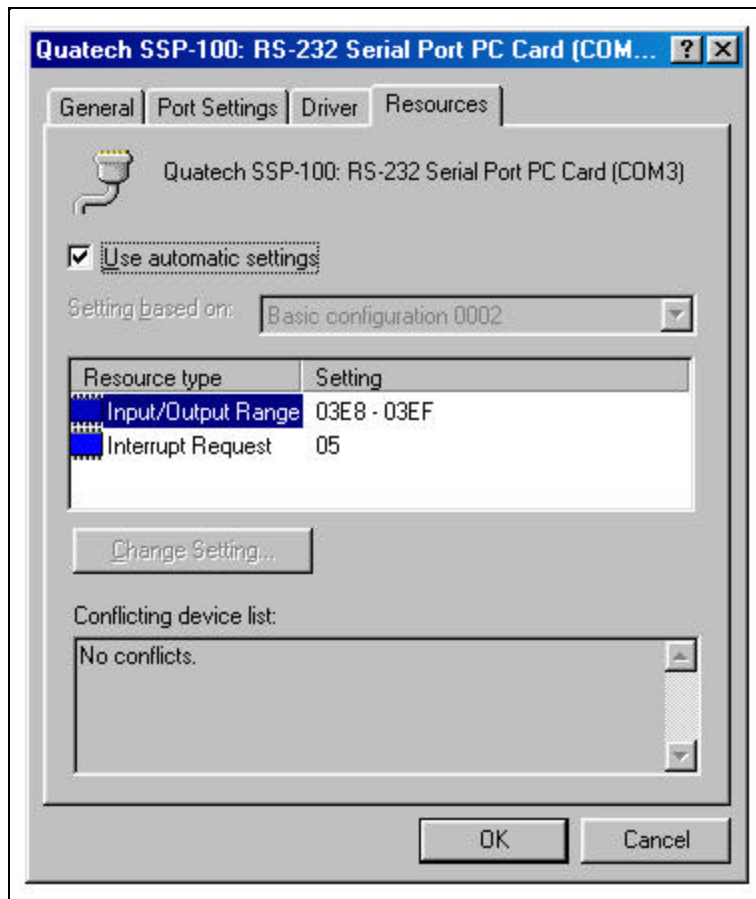

Figure 9. Windows 95,98,ME Resource Allocation
4. Open the **Properties** dialog for the SSP-100 device, then click the **Resources** tab to view the Input/Output Range and Interrupt Request resource allocations. (see Figure 9. Windows 95, 98, ME Resource Allocation).